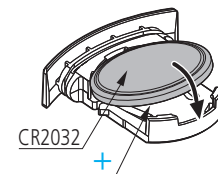

Fig. 1
6. For a digimatic type, use a CR2032 battery. **(Fig. 1)**